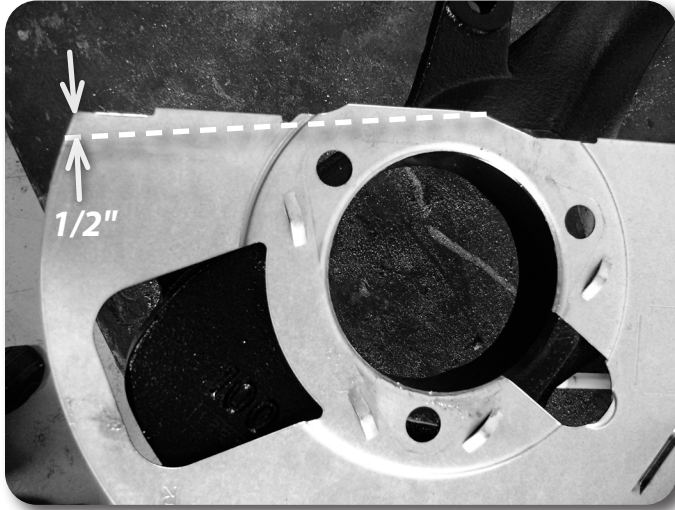

Figure 31
56. The brake dust shield needs to be trimmed. Measure in from the lower vertical edge (opposite the ABS sensor location) 1/2" and make a straight line to the edge shown in Figure 31. Cut the section off of the brake dust shield.